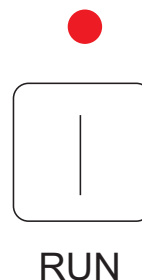

Figure 28. Run Button
2. Press the **RUN** button (Figure 28) on the controller to start the engine.